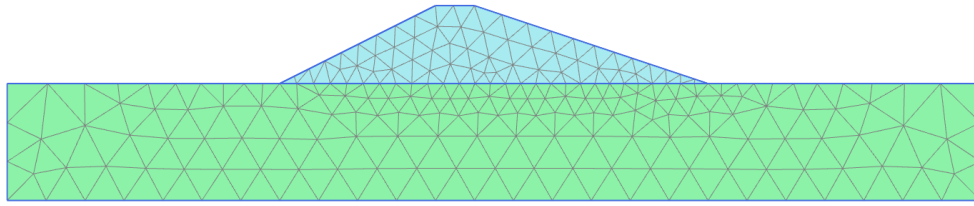

Figure 2-3: The generated mesh
- Click the **View mesh** button  to view the mesh and the generated mesh is shown in Figure 2-3 \(p. 44\).